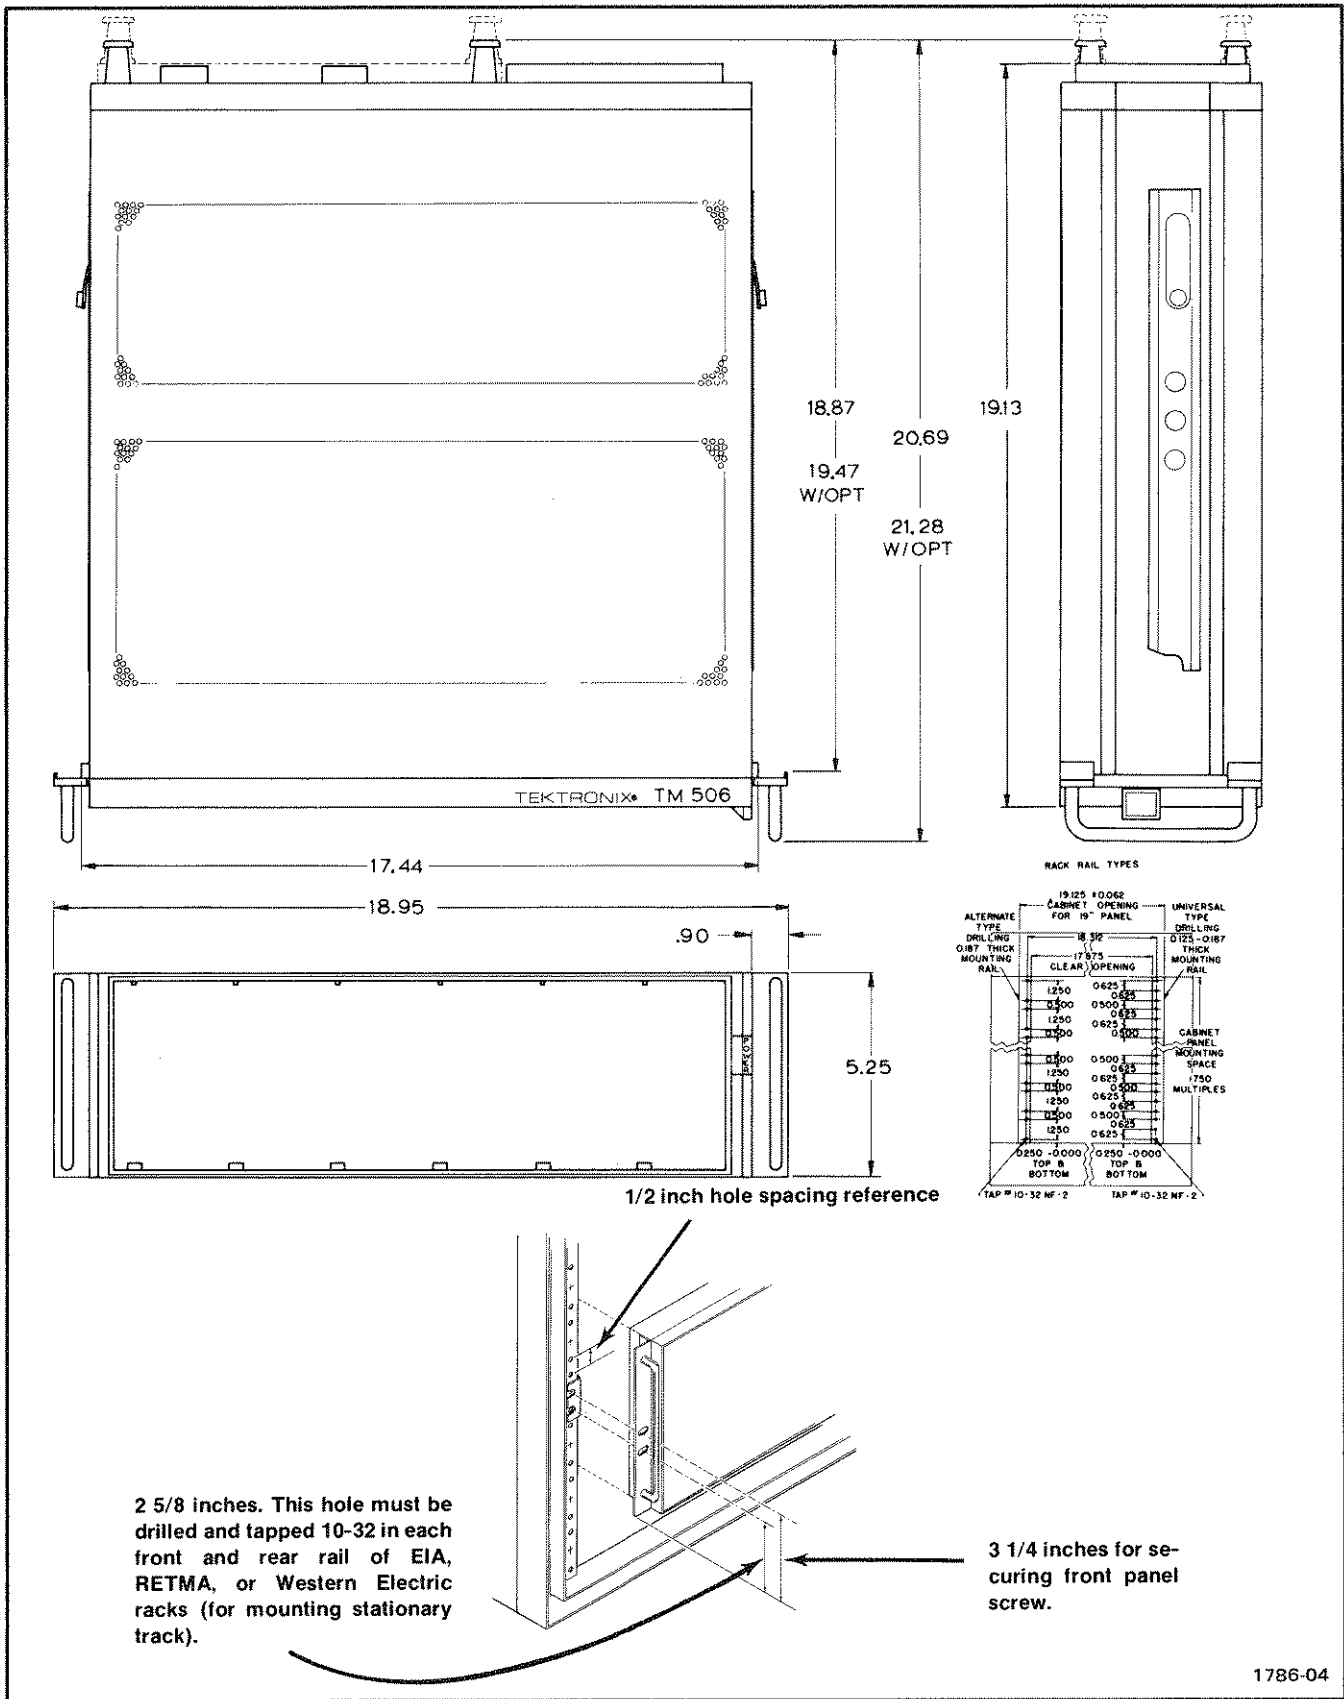

Fig. 2-3. Dimensional diagram.
1. To mount the instrument directly above or below another instrument in a cabinet rack, select the appropriate holes in the front rack rails for the stationary sections, using Fig. 2-3 as a guide.
To secure the instrument front-panel to the rack, the rack must either have universal hole spacing, or a hole must be drilled and tapped for a 10-32 screw, see Fig. 2-3. Using the hardware (not furnished) indicated in Fig. 2-3, secure the TM 506 to the front rails of the rack.